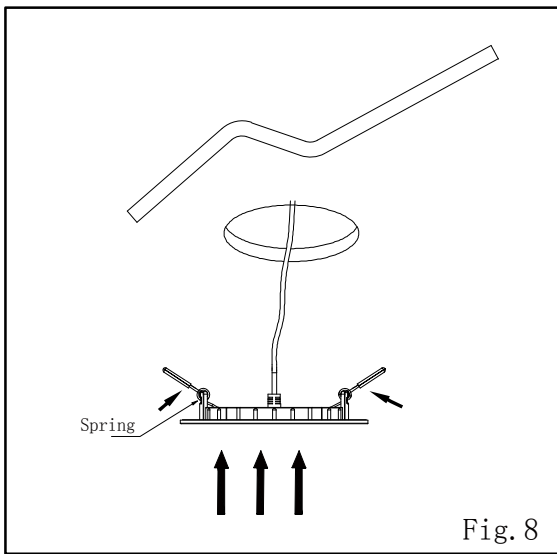

Fig. 8
9. Squeeze both TORSION SPRINGS arms together and insert into the ceiling opening. (Fig.8)